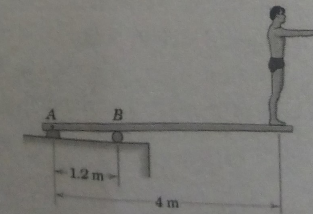

Fig 4.
- Draw the shear and moment diagrams for the diving board shown in Fig. 4, which supports the 80-kg man poised to dive. Specify the bending moment with the maximum magnitude.